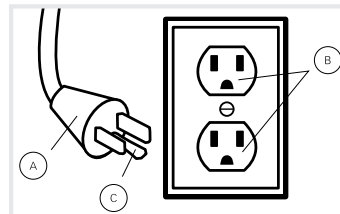
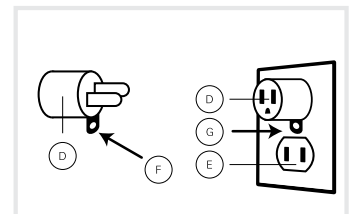

Fig. 1
Fig. 2
WARNING: Improper connection of the equipment-grounding conductor can result in the risk of electric shock. Check with a qualified electrician or service person if you are in doubt as to whether the outlet is properly grounded. Do not modify the plug provided with the appliance - if it will not fit the outlet, have a proper outlet installed by a qualified electrician. This appliance is for use on a nominal 120-volt circuit and has a grounding plug that looks like the plug (A) illustrated in Fig. 1. A temporary adapter (D) may be used to connect this plug to a 2-pole receptacle (E) if a properly grounded outlet is not available (Fig. 2). The temporary adapter should be used only until a properly grounded outlet (B) can be installed by a qualified electrician (Fig. 1). The green colored rigid ear, lug, or the like (F) extending from the adapter must be connected to a permanent ground (G) such as a properly grounded outlet box cover (Fig. 2). Whenever the adapter is used, it must be held in place by a metal screw. **NOTE:** In Canada, the use of a temporary adapter is not permitted by the Canadian Electrical Code.